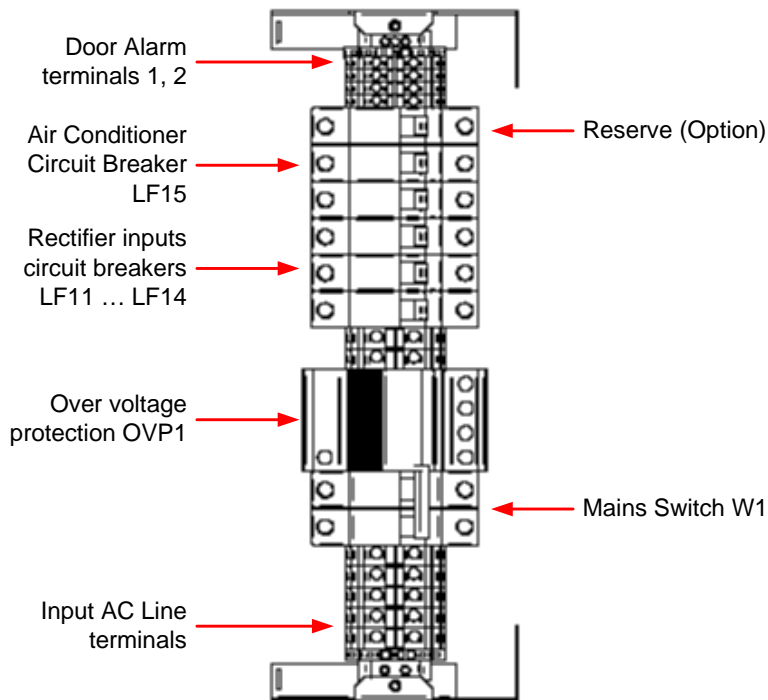

Figure 3. ODPS 2000B-48-4 AC Distribution.
The AC input terminals are located into AC distribution panel (see Fig. 3)
Step 2 Connect AC line cables to the input terminals in AC distribution – PE cable to the PE terminal, phase cables to the phase terminals L1, L2, L3 and the neutral cable to the N terminal (see Fig. 3)
- Step 2** Connect the remote alarm cable to the door alarm screw terminals 1, 2 located in the AC distribution. (Fig.3).